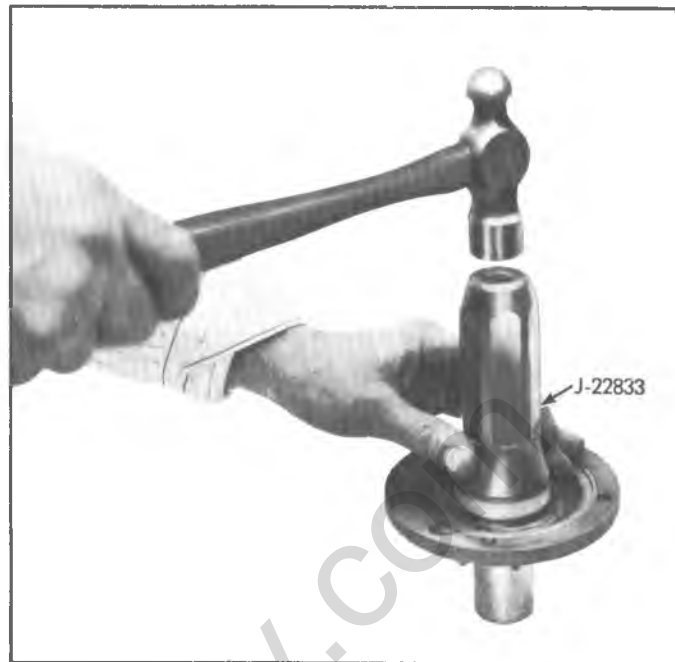

Fig. 13Q-Installing Bearing Retainer Oil Seal
4. Support front surface of retainer in press, start seal and tool in retainer bore and drive seal into retainer until flange of tool bottoms on retainer (fig. 13Q).